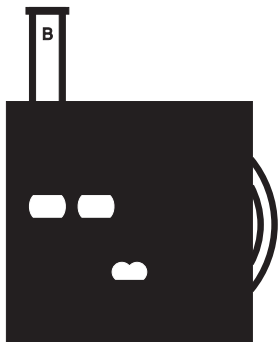

Figure 1. Placing the Blank
6.1. Place the tube of untreated water sample in the left top opening of the color comparator, this is known as the blank sample. (See Figure 1.)